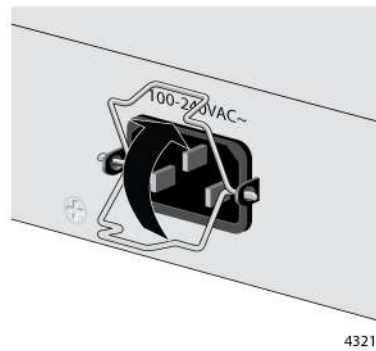

Figure 35. Raising the Retaining Clip
2. Raise the retaining clip. See Figure 35 on page 65.